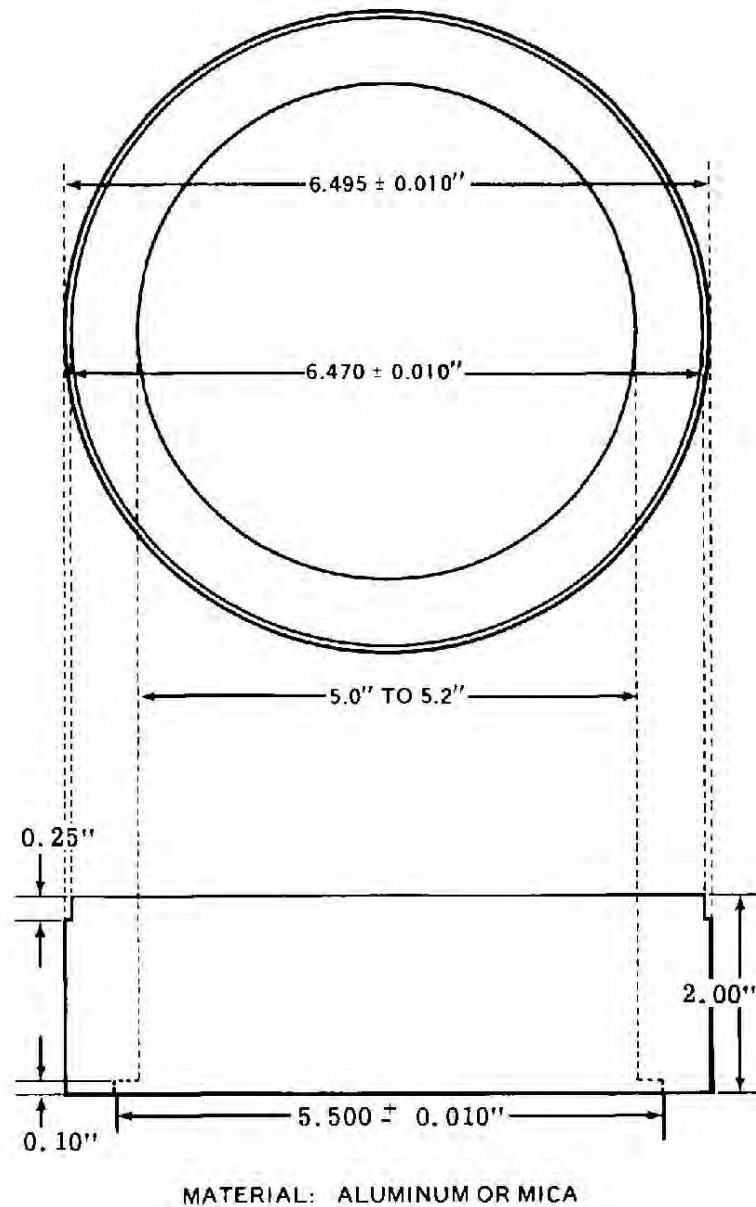

Figure 63-46. Input Quill Seal Wear Sleeve Work Aid
63.7.4.1.8 Assemble seal wear sleeve (19) to coupling outer race with the use of a press. Fabricate a suitable plate to bridge over the coupling inner race so that uniform pressure may be applied around entire circumference of wear sleeve while installing, to avoid cocking and distorting (Refer to Figure 63-46.) Install wear ring with large radius at outer edge of coupling race flush to 0.020 inch recess. Clean excess adhesive from wear sleeve thoroughly and remove all protective masking tape from seal bearing surface of wear sleeve.